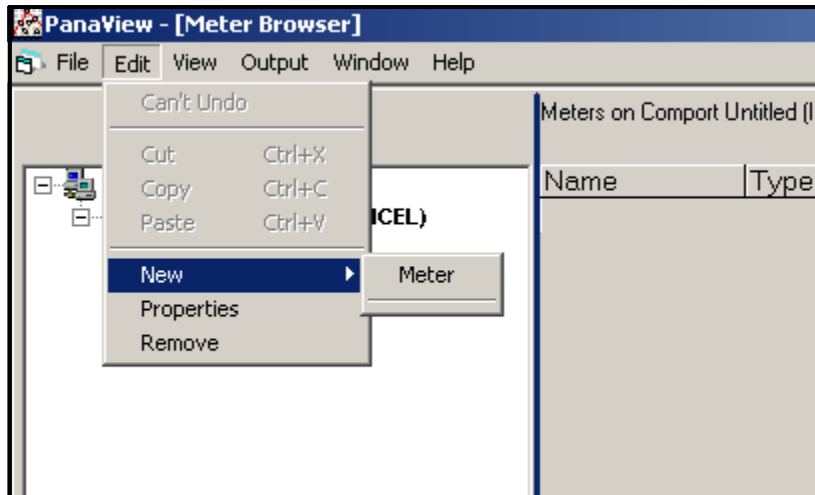

Figure 20: “New” Option in the “Edit” Menu
2. Click on the “New” option in the “Edit” menu (see Figure 20 below).